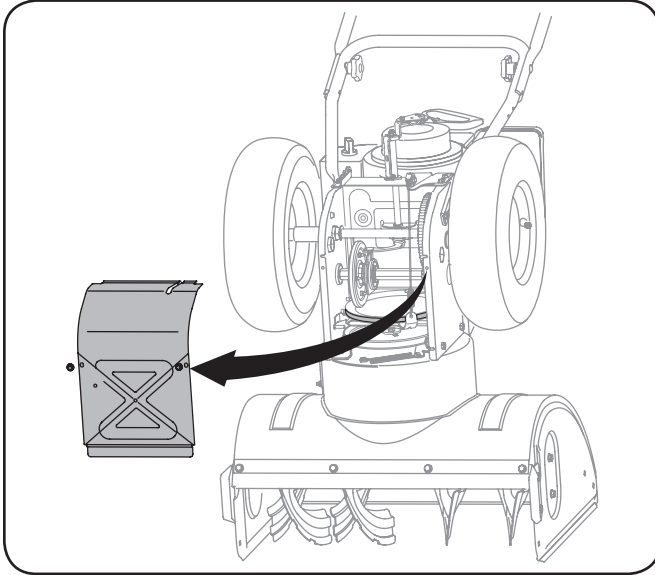

Figure 6-3
3. Remove the frame cover from the underside of the snow thrower by removing the self-tapping screws which secure it. Refer to Figure 6-3.